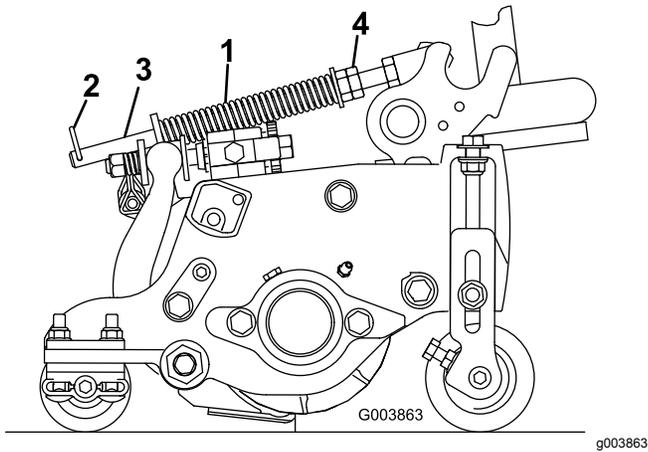

Figure 14
The turf-compensation spring transfers weight from the front to the rear roller (Figure 14). This helps to reduce a wave pattern in the turf, also known as marcelling or bobbing.
1. Make sure that the hairpin cotter is installed in the rear hole in the spring rod (Figure 14).
2. Tighten the hex nuts on the front end of the spring rod until the compressed length of the spring is 12.7 cm (5 inches) for 5-inch cutting units or 15.9 cm (6.25 inches) for 7-inch cutting units (Figure 14).